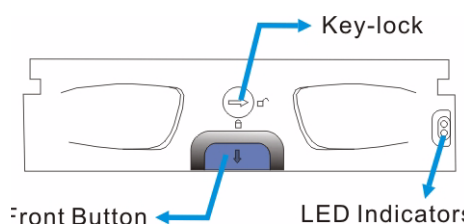

Figure 6.1 Drive Canister Front View
1. Turn the key-lock to the unlocked position. The key-lock is unlocked if the groove on its face is in a horizontal orientation. (See *Figure 6.1*)